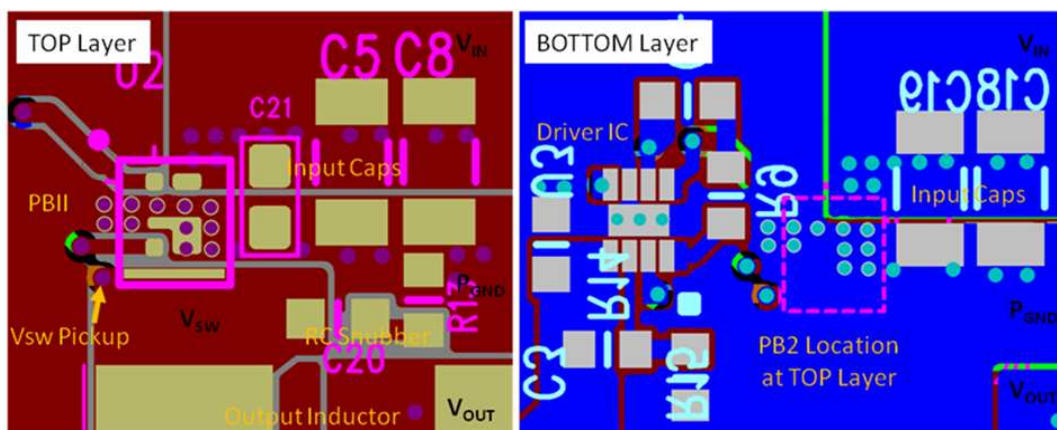

Figure 29. Recommended PCB Layout (Top Down View)
- The placement of the input capacitors relative to VIN and PGND pins of CSD87381P device should have the highest priority during the component placement routine. It is critical to minimize these node lengths. As such, ceramic input capacitors need to be placed as close as possible to the VIN and PGND pins (see Figure 29). The example in Figure 29 uses 1 x 10 nF 0402 25 V and 4 x 10  $\mu$ F 1206 25 V ceramic capacitors (TDK part number C3216X5R1C106KT or equivalent). Notice there are ceramic capacitors on both sides of the board with an appropriate amount of vias interconnecting both layers. In terms of priority of placement next to the power stage, C21, C5, C8, C19, and C18 should follow in order.
- The switching node of the output inductor should be placed relatively close to the Power Block II CSD87381P VSW pins. Minimizing the VSW node length between these two components will reduce the PCB conduction losses and actually reduce the switching noise level. See Figure 29. (1)
- Use the smallest drill size allowed in your design. The example in Figure 29 uses vias with a 10 mil drill hole and a 16 mil capture pad.